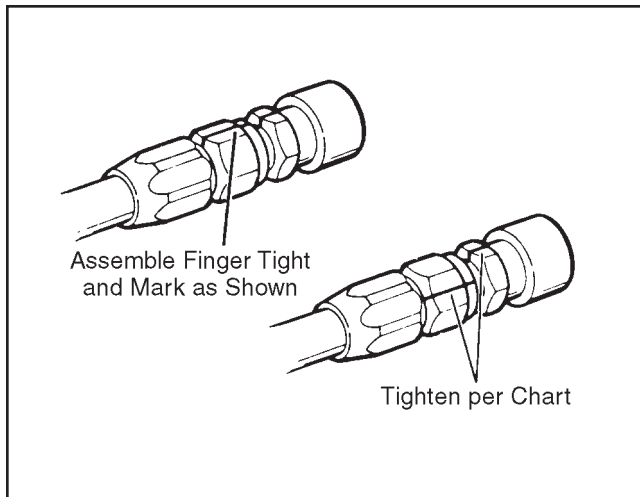

Figure 8C-1. Reference Marking
2. For tightening reference, mark a line lengthwise on the flats of both the nut and adapter fitting with a marker as shown in Figure 8C-1.